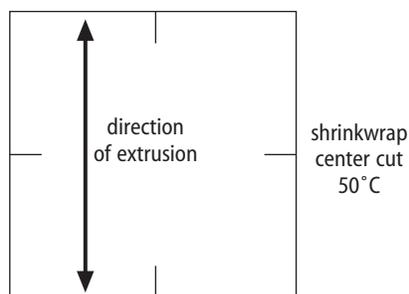

Figure 1. Cut a 10-cm square sample, mark the direction of extrusion and the midpoints of the sides.
3. Cut 10 cm square samples from the material, marking the midpoints of both sides and the direction of extrusion. Cut samples from both the center of the sample and the edge, marking them appropriately. Make the midpoint marks at least 1 cm in length. See Figure 1.